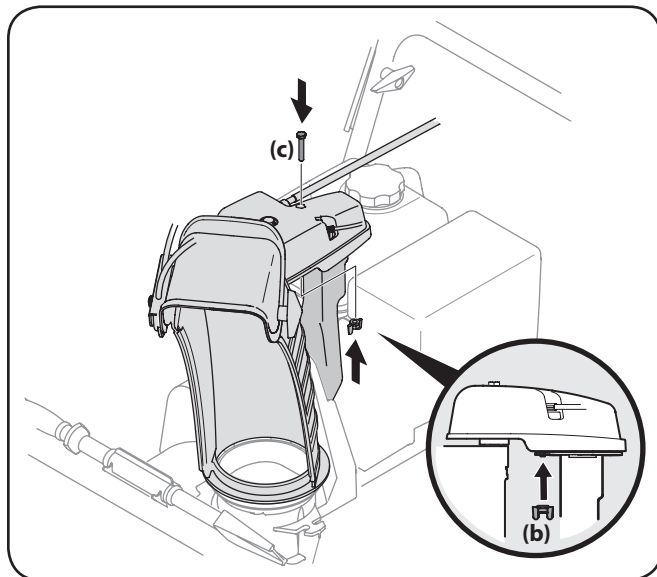

Figure 3-6
4. Finish securing chute control head by installing hex screw (c) and wing nut (b). See Figure 3-6.